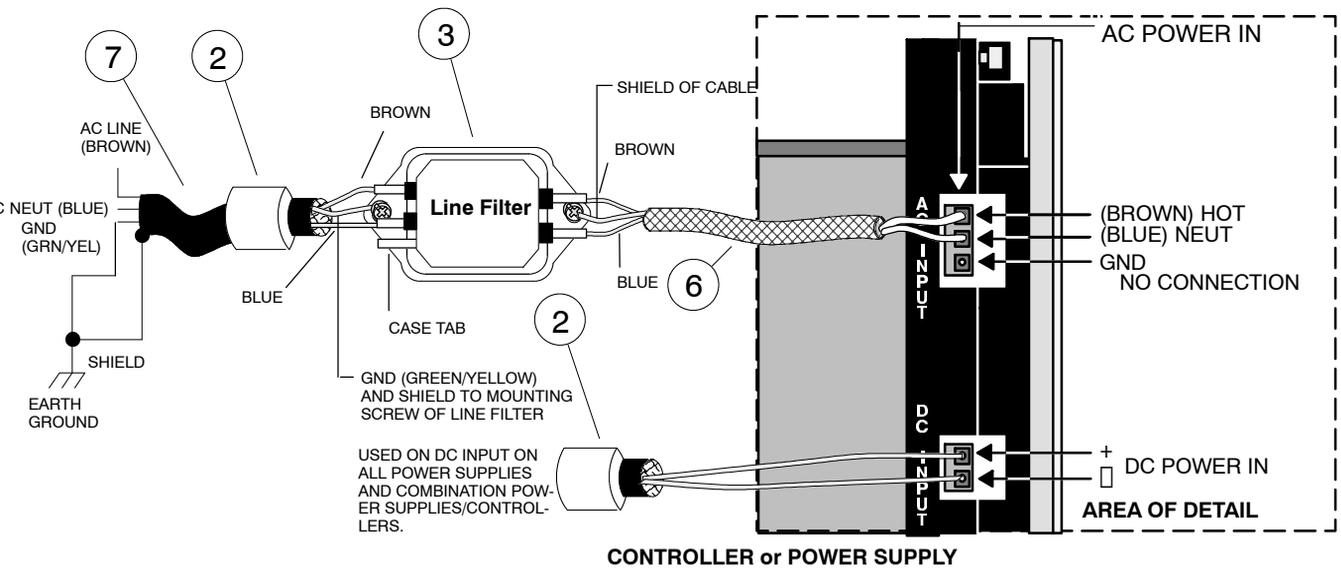

Figure 6 Detail Installation
- Use a 110/220Vac Line Filter (Schaffner part number FN670-30/6), with a Ferrite Bead (Steward part number 28 B0625-100). Install as shown in Figure 6 on power input to rack power supply.